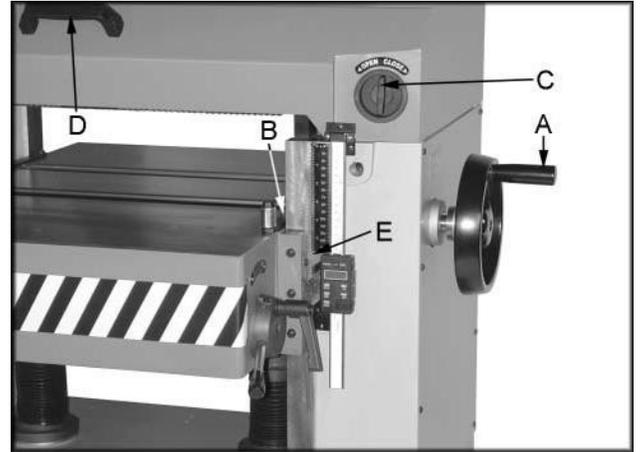

Figure 6
Turn the handwheel (A, Fig. 6) clockwise to raise the table. One revolution equals 1/16" (.0625" [1.5875mm]).
The socket head cap screw (B, Fig. 6) acts as a stop and prevents you from running the table into the cutting and feeding assembly.
Turn the locks (C, Fig. 6) clockwise to open the hood. The hood will open automatically. Use the handle (D, Fig. 6) to shut the hood.
2. Use the handwheel (A, Fig. 6) to raise the table so that the in-feed roller is about 1/16" above the calibrating board.
7. Adjust the pointer (E, Figure 6) so that it reads the measured thickness by loosening the screw that holds it in place.